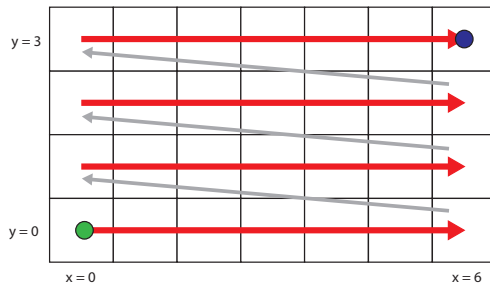

Figure 5.1: The ‘standard’ mode.
The most basic mode is the ‘standard’ mode. Fig. 5.1 shows how the standard mode measures the map $z(x, y)$. In this example, we have chosen for $x = \text{np.linspace}(0, 6, 7)$ and $y = \text{np.linspace}(0, 3, 4)$. We start at the green dot and measure $z(0, 0)$. Then, we follow the red line, which denotes a *sweep* being performed. Hence, we measure $z(1, 0), z(2, 0), \dots, z(6, 0)$. Then, we *move* x back to its first value (0) and *move* y to its second value (1). This is denoted by the grey arrow. Now, we sweep x for $y = 1$, move, sweep, etc., until we end up at the blue dot.